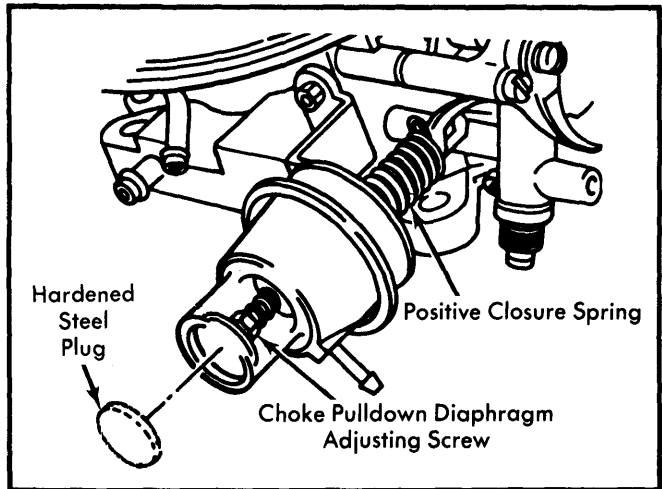

Fig. 4 Adjusting Choke Pull-Down Clearance
3) Turn screw back and forth several times to loosen up screw. When screw is loose, remove and clean off all Loctite. Reinstall screw. Measure choke pulldown specified clearance between lower edge of choke valve and air horn wall. See Fig. 4.